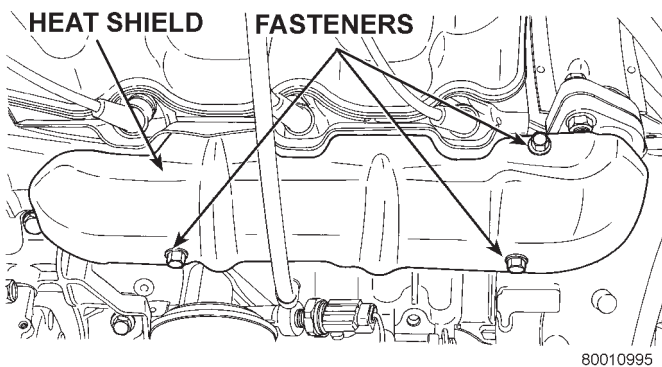

Fig. 31 Front Exhaust Manifold Heat Shield
- (6) Install front exhaust manifold and attach exhaust crossover.
- (7) Install front exhaust manifold heat shield and tighten attaching screws to 15 N·m (130 in. lbs.) (Fig. 31).